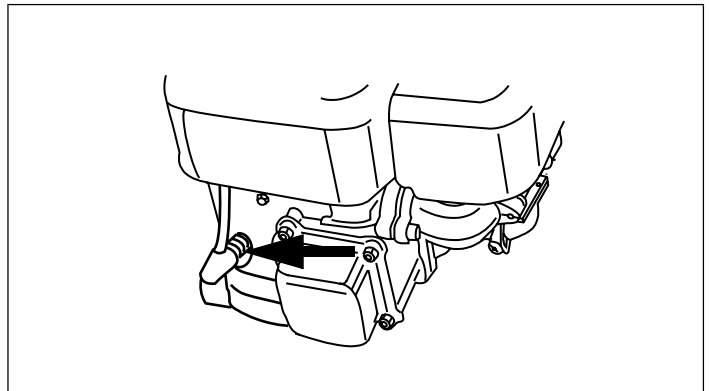

Figure 2. Typical Spark Plug Connection
- Carefully disconnect spark plug wire and keep it away from spark plug. See Figures 2 and 3.